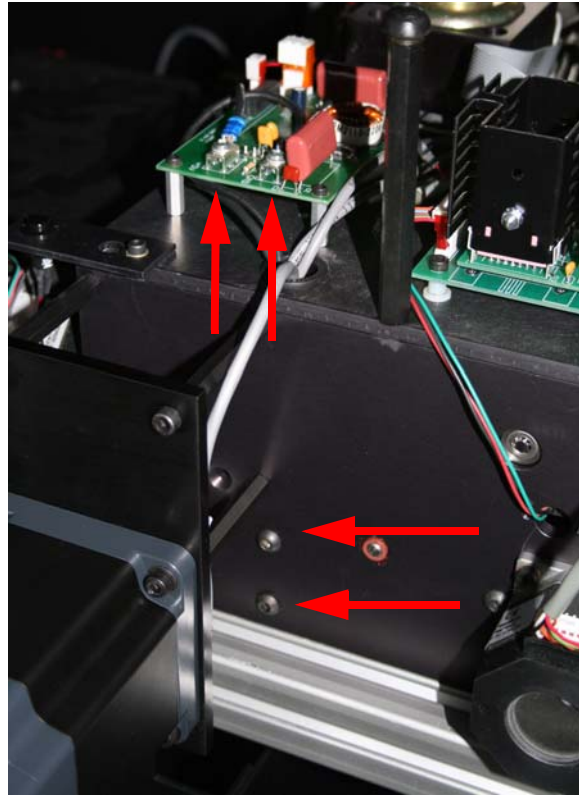

Figure 3. Disconnect the terminal lugs from the Welder Power Controller. Remove the two screws.
- Remove the two 6-32 x 1/4 panhead screws on the Ground and +5V terminals on PN# 70311954, Welder Power Controller. Disconnect the two cables. Figure 3.
- Remove the two M6 screws from the orange side (front) of the Cut Weld Assembly. Figure 3.
11. Replace the two M6 screws on the orange side of the Cut Weld Assembly and replace the M8 screw on the blue side of the Cut Weld Assembly. Leave the screws loose. Figure 3 & 4.
14. Replace the Welder Power Controller terminal lugs using the two phillips head screws. Figure 3.